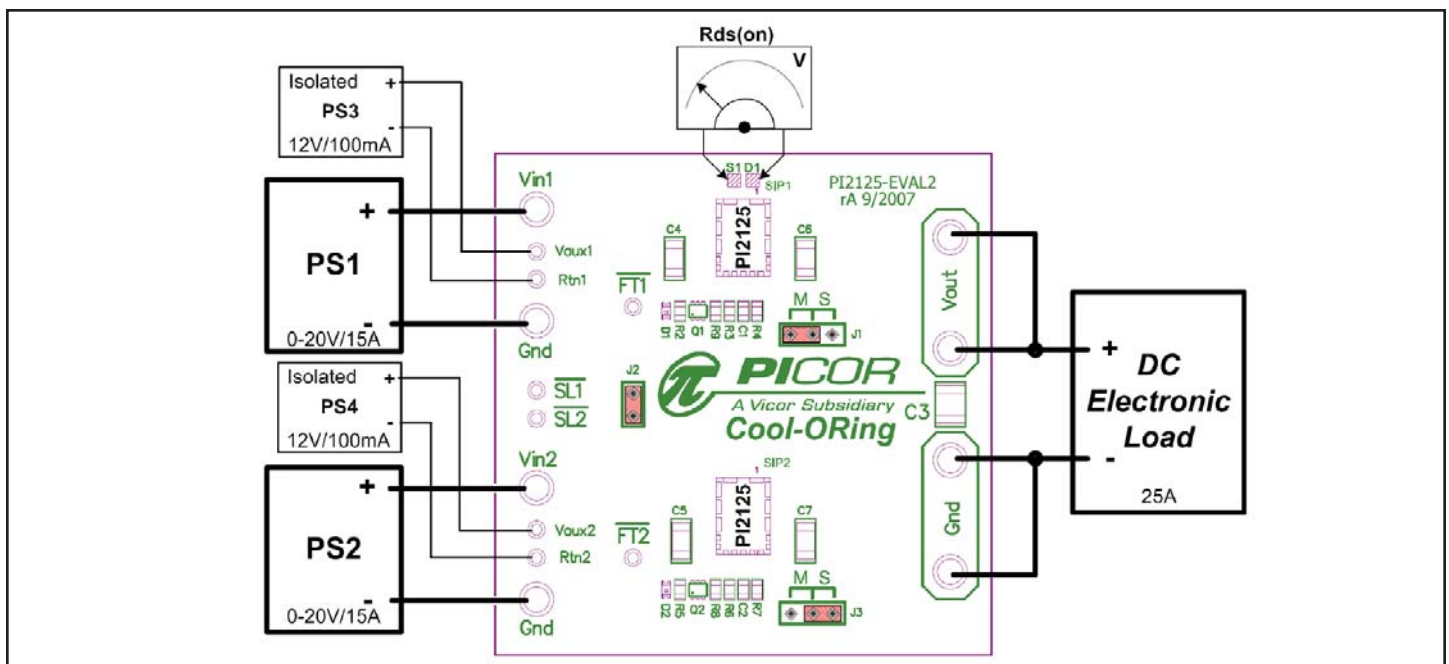

Figure 4: Layout configuration for typical application, SiP1 in Master Mode and SiP2 Slave Mode
- 6.1 As shown in figure 4, BK pin (J1) of the master device will be connected to ground [across M] while the slaved device BK pin (J3) is connected to VCC [across S]. Place a jumper across J2 to connect slave pins together.